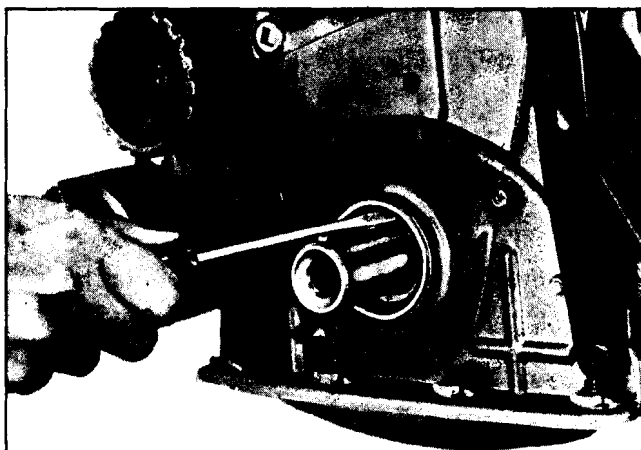

Fig. 6-33 Removing Crankshaft Front Seal
9. Pry seal from crankcase cover (Fig. 6-33) using care not to distort the cover.